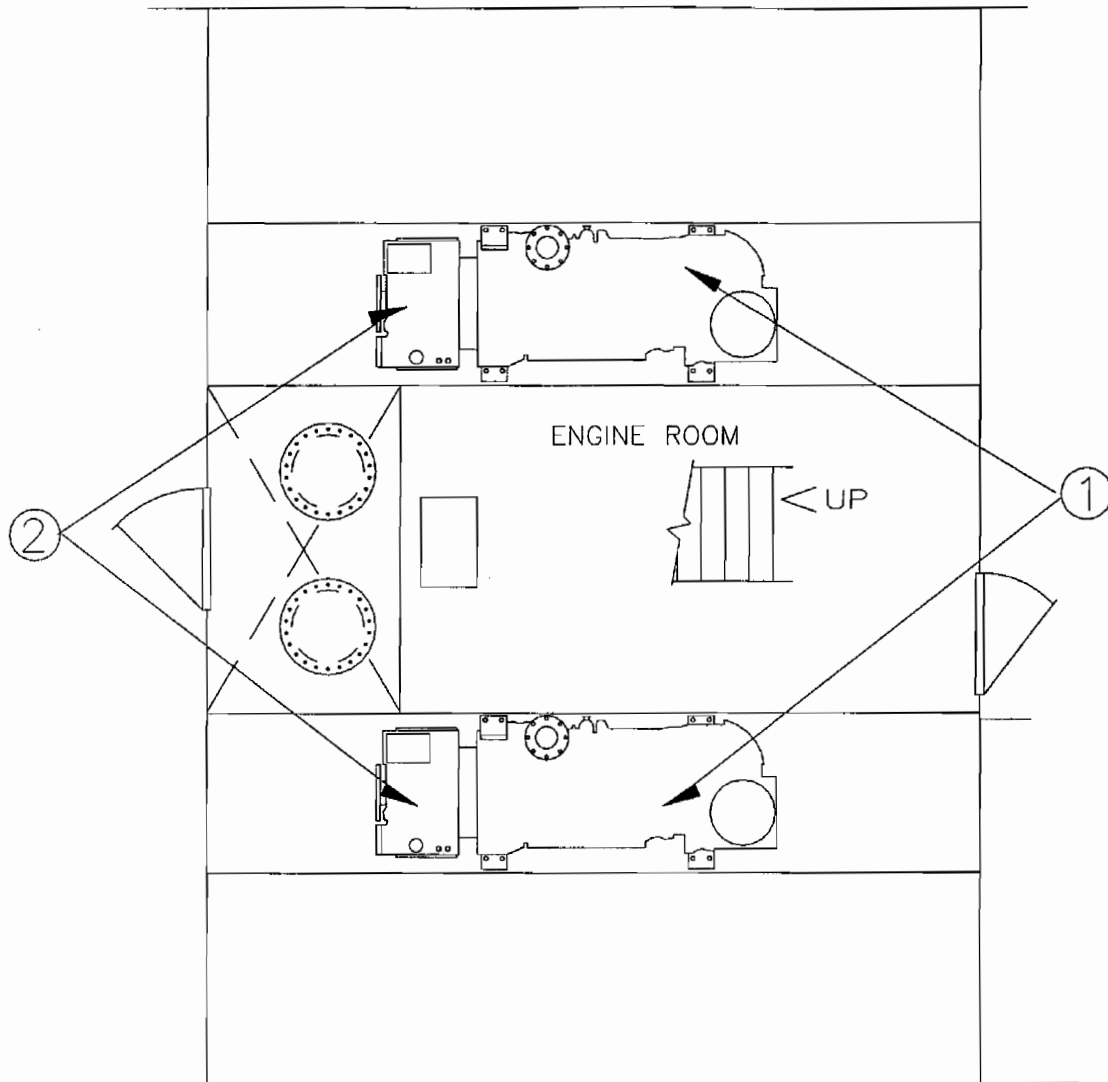

Figure 1-25. Propulsion Plant
1.16.1. Propulsion Plant. The ST's propulsion system consists of two main propulsion plants. Figure 1-25 provides a plan view of the propulsion plant. Each plant consists of a main engine (1) coupled to a two-speed reversing reduction gear (2). The output shaft of the reduction gear is coupled to the propulsion shafts. The machinery plant monitoring system accomplishes monitoring of the propulsion plant. Operational control is provided by an electronic control system.